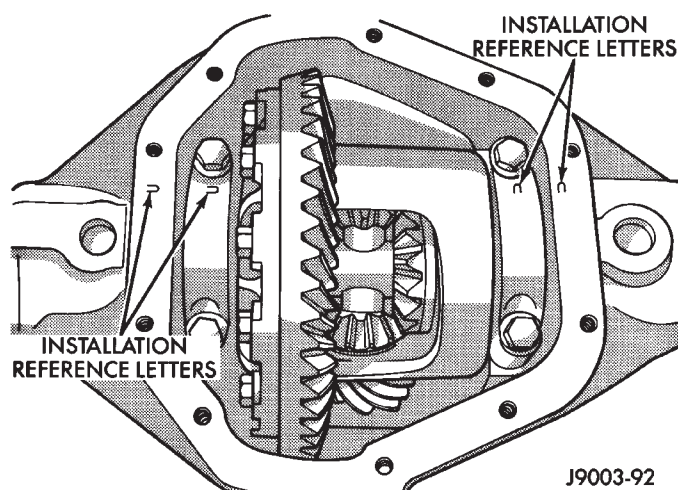

Fig. 43 Differential Bearing Cap Reference Letters
(7) Install the bearing caps at their original locations (Fig. 43). Tighten the bearing cap bolts to 77 N·m (57 ft. lbs.) torque.